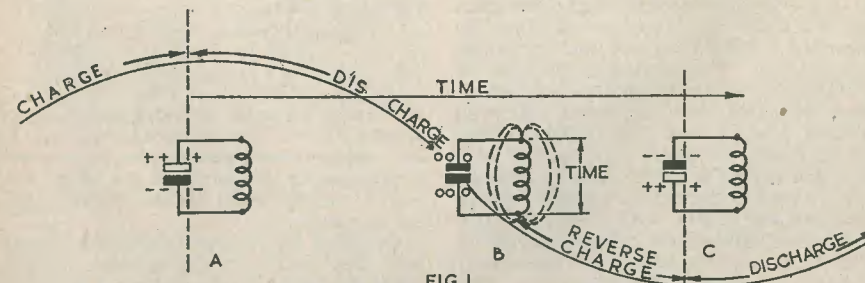

FIG. 1
From this point, we could discourse on the use of a capacitor in power supplies or its value as a decoupler for radio frequencies, but it may be more interesting to see what the relationship is between a coil and capacitor, and frequency. The capacitor and coil in Fig. 1 (A) are, for the purposes of this comparison, imagined to be connected up in an oscillatory circuit, and the capacitor has become initially charged. In a fraction of a second this charge is short circuited through the coil, causing the electro-magnet lines of force as shown in Fig. 1 (B). This electro-magnetic field immediately collapses at the end of the cycle, and the capacitor immediately re-charges in the opposite polarity. This sequence repeats itself at the same speed for a given value of capacitor and a given inductance. If the capacitor is made smaller, the time taken to charge and discharge it will be correspond-